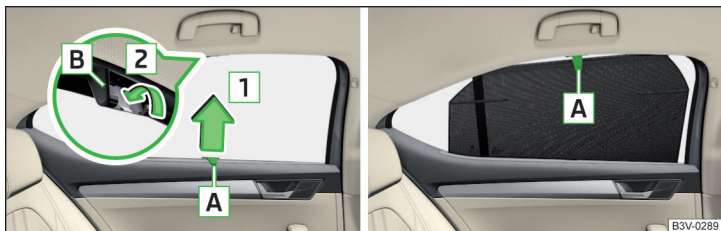

Fig. 78 Sun blind on the rear door
- To **roll down**, pull out the sunshade by the handle **A** in direction of arrow **1** and suspend in the holder **B** on top edge of the door in the direction of arrow **2** » Fig. 78.